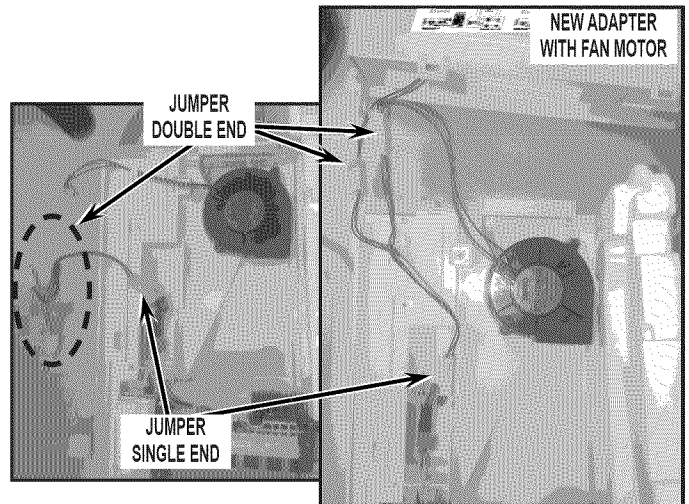

FIGURE 15
18. Disconnect ice box fan connector from ice box, and connect 'single' end of jumper supplied in kit, to ice box. Connect the 'double' end of the jumper to the ice box fan and the new adapter supplied in the kit. See *Figure 15*.